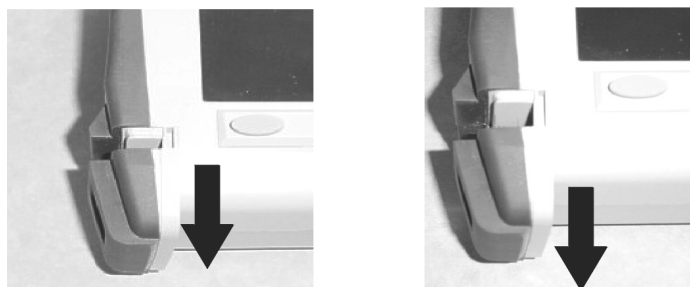

Figure 3-2. Removing the Battery Access Door
2. Place a finger in the battery access door notch and push the door down towards the bottom of the instrument, as illustrated in Figure 3-2.